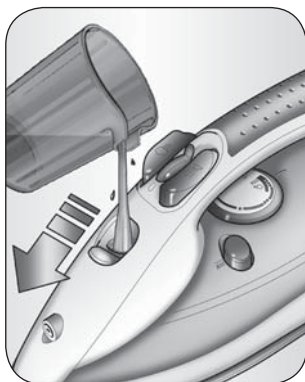

Fig. 3
- 2 Open the cover (B) by pushing it upwards and, holding the iron horizontally, fill the water tank up to the maximum level using the water measure (M) provided (Fig. 3).
- 3 Close the cover (B) again.
- 1 Fill the water tank for a quarter using the measuring cup (M) provided (Fig. 3).
- 2 Set the iron on a stable surface in a vertical position on the iron stand (G).
- 6 Heat the iron until the lamp (H) turns off a second time.
- 9 Press the "SELF CLEAN" button (K) and keep the iron in horizontal position. Steam and boiling water will come out from the plate holes removing the lime scale and impurities that have accumulated inside the plate.